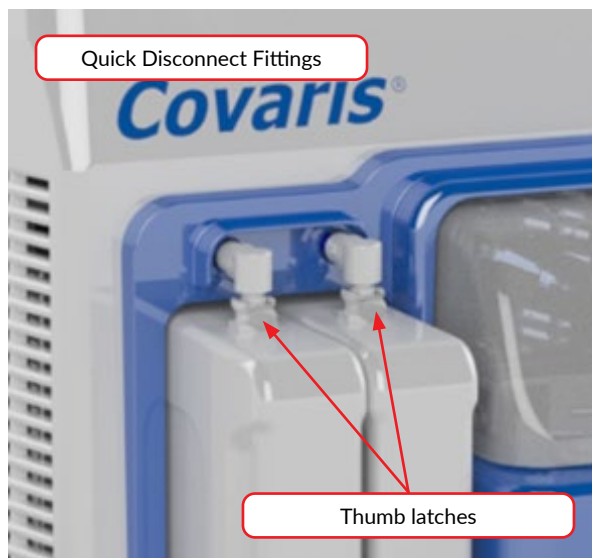

Figure C1 Quick Disconnect Components
2. Disconnect the Supply and Waste bottles by pressing the thumb latch on the Quick Disconnect Fittings and lifting them out of the bottles. See **Figure C1**.